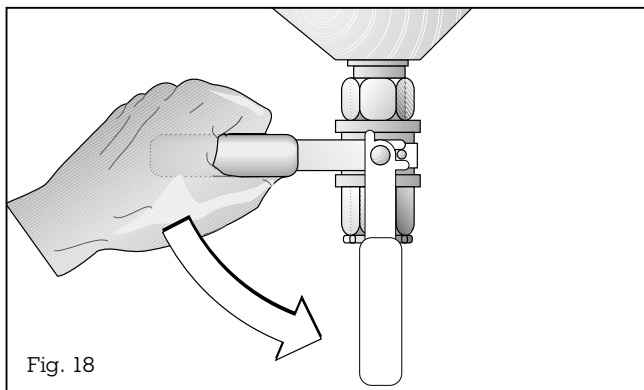

Fig. 18
**The deep frying oil or fat** is drained off through the oil drain valve, which is located under the funnel-shaped base of the deep frying tub: First unscrew the plastic cap from the drain valve and open the drain valve by pulling the handle down (Fig. 18).